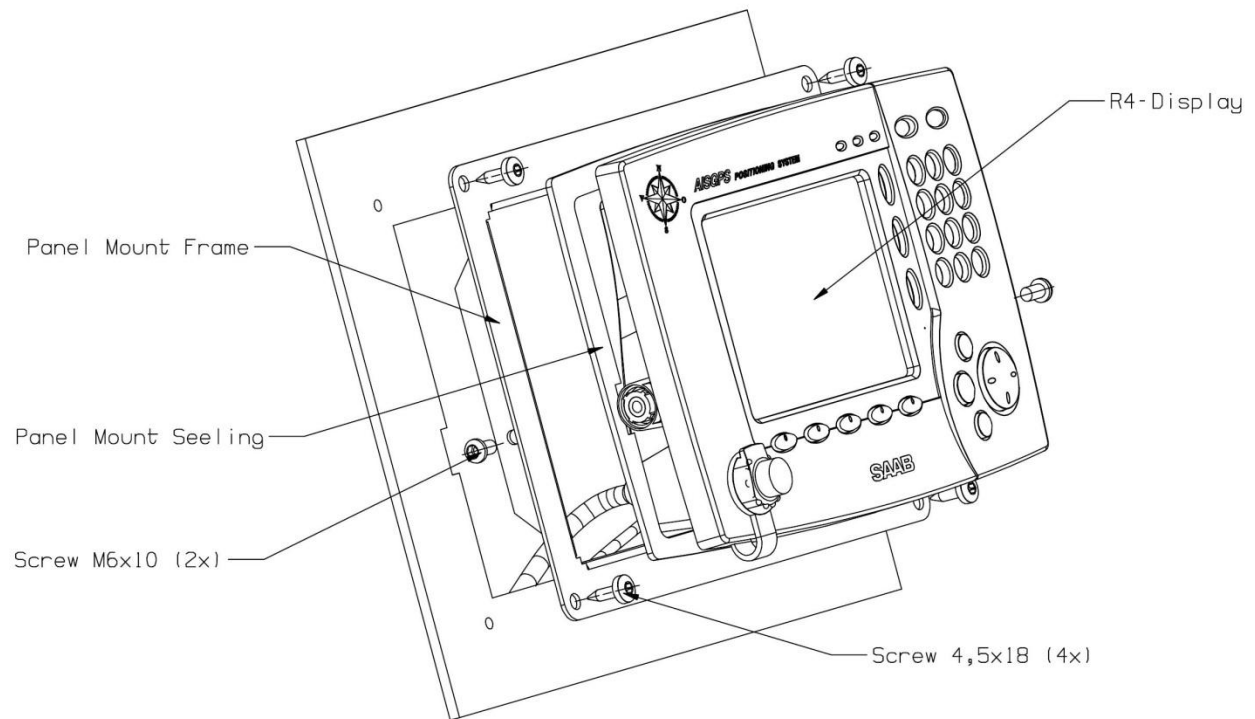
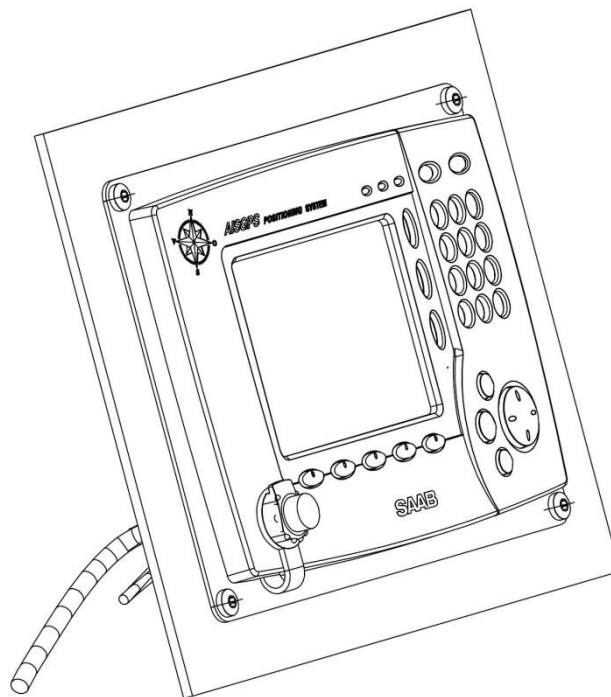

Figure 4-8: Panel mounting R4 Display
Figure 4-9: R4 Display panel mounted
7. Slide the R4 Display with the panel mount frame into the rectangular hole in the panel and fasten it to the panel with four screws, as illustrated in Figure 4-8 and Figure 4-9 below.